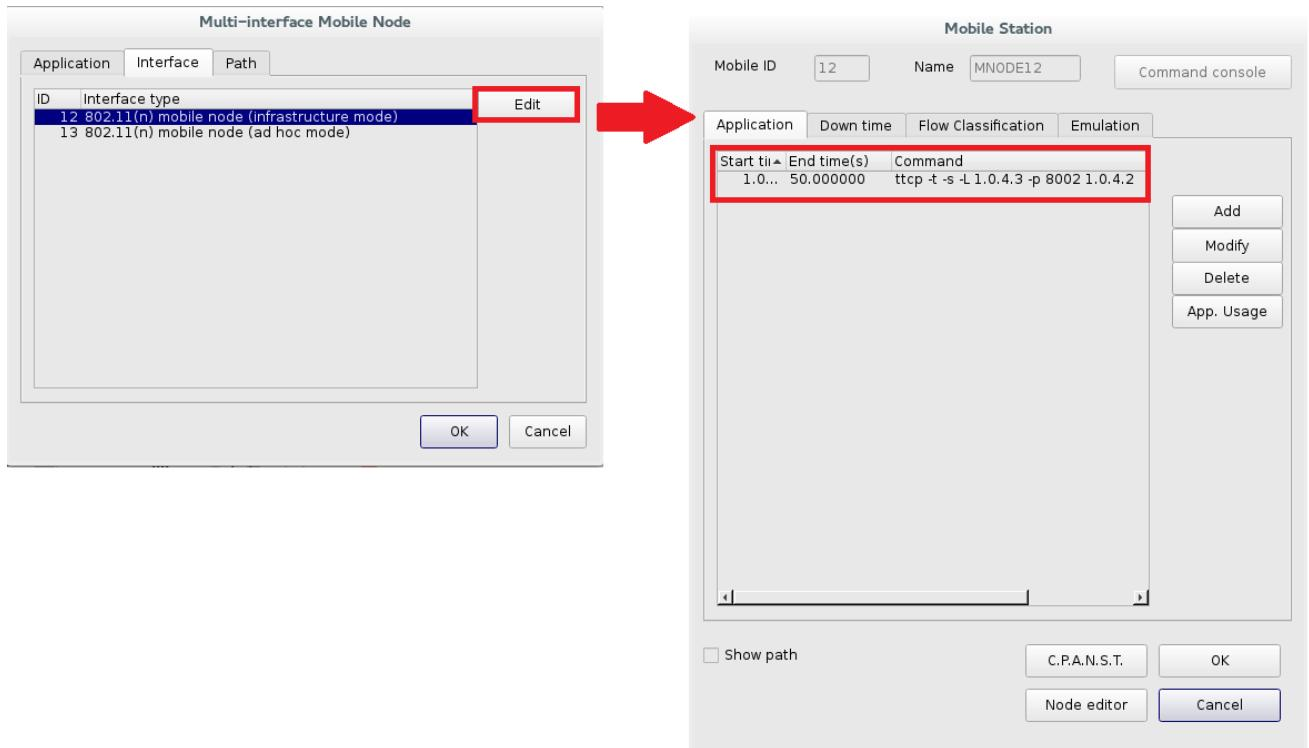
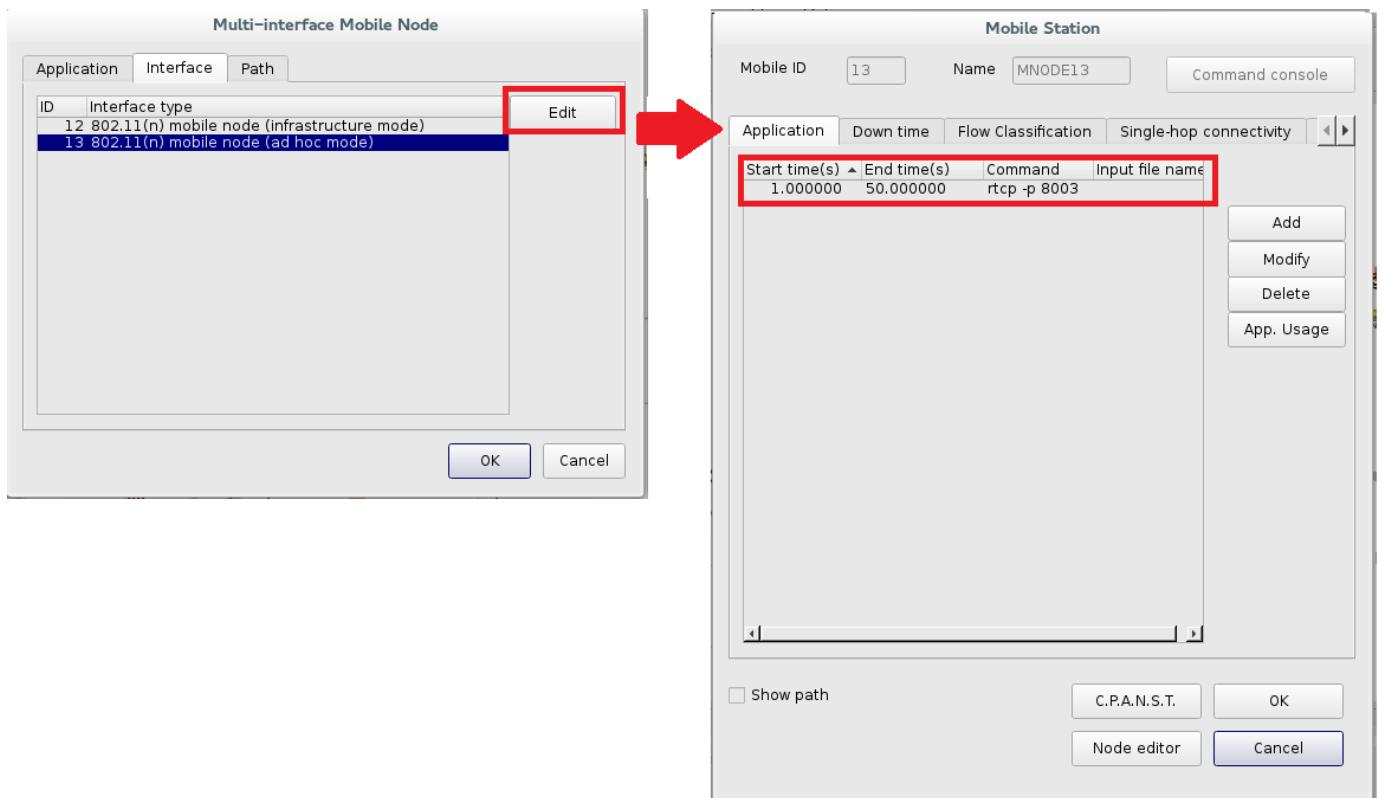

Figure 5.1.23 Add application to interface id 12 of node11
Figure 5.1.24 Add application to interface id 13 of node12
- v. Double click multi-interface mobile node11 and choose tab "Interface". To select the interface ID 12: IEEE 802.11(n) mobile node (infrastructure mode) with click "Edit" button then add the command: "ttcp -t -s -L 1.0.4.3 -p 8002 1.0.4.2" to send TCP packet to node10 as figure 5.1.23. The command "-L IP address" means binding the source IP address. Then, select the interface ID 13: IEEE 802.11(n) MNode (ad hoc mode) with click "Edit" button and add the command: "rtcp -p 8003" to receive TCP packet from node14 as figure 5.1.24.